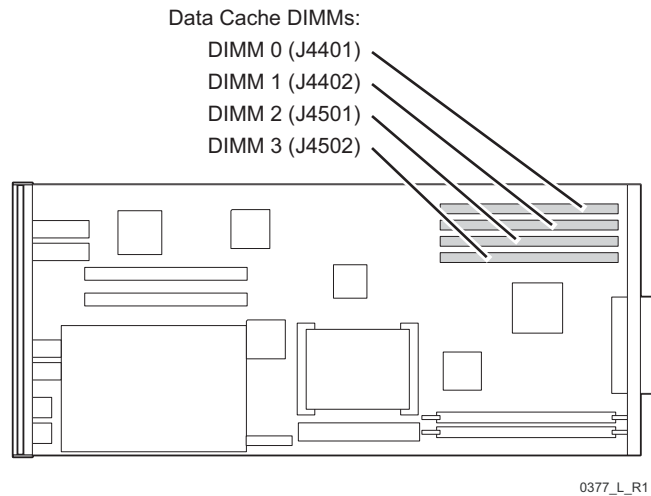

Figure 14-2. Data cache DIMM slots
- 11 Locate the data cache DIMM requiring replacement (Figure 14-2).